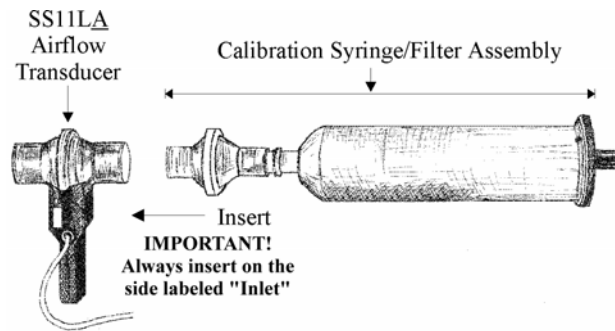

Fig. 12.4
6. **Insert** the Calibration Syringe/Filter Assembly into the airflow transducer (Fig. 12.4).
If using SS11LA transducer with removable, cleanable head, always insert syringe assembly on the transducer side labeled “Inlet” so that the transducer cable exits on the left, as shown in Fig. 12.4.